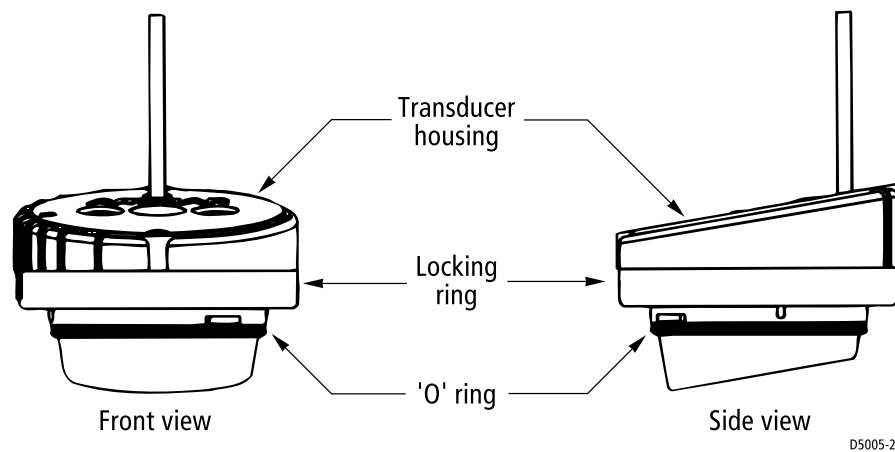

Figure 2-23: Installing the O-ring
8. Lubricate the O-ring with silicone grease or petroleum jelly. Slide the O-ring onto the transducer assembly (see Figure 2-23).